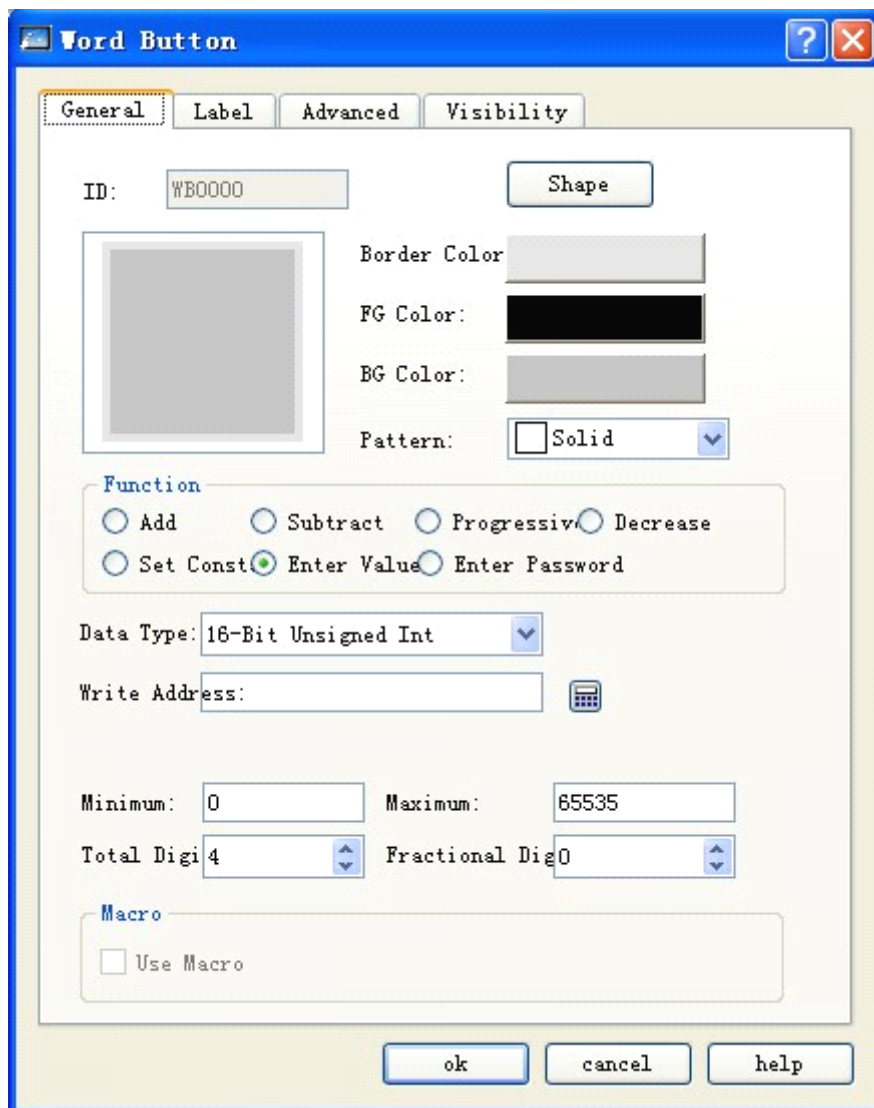

Figure 4-81: Word Button dialog
- Choose Word Button icon **W** in the tool bar, and then a dialog as shown in Figure 4-81 will pop up.